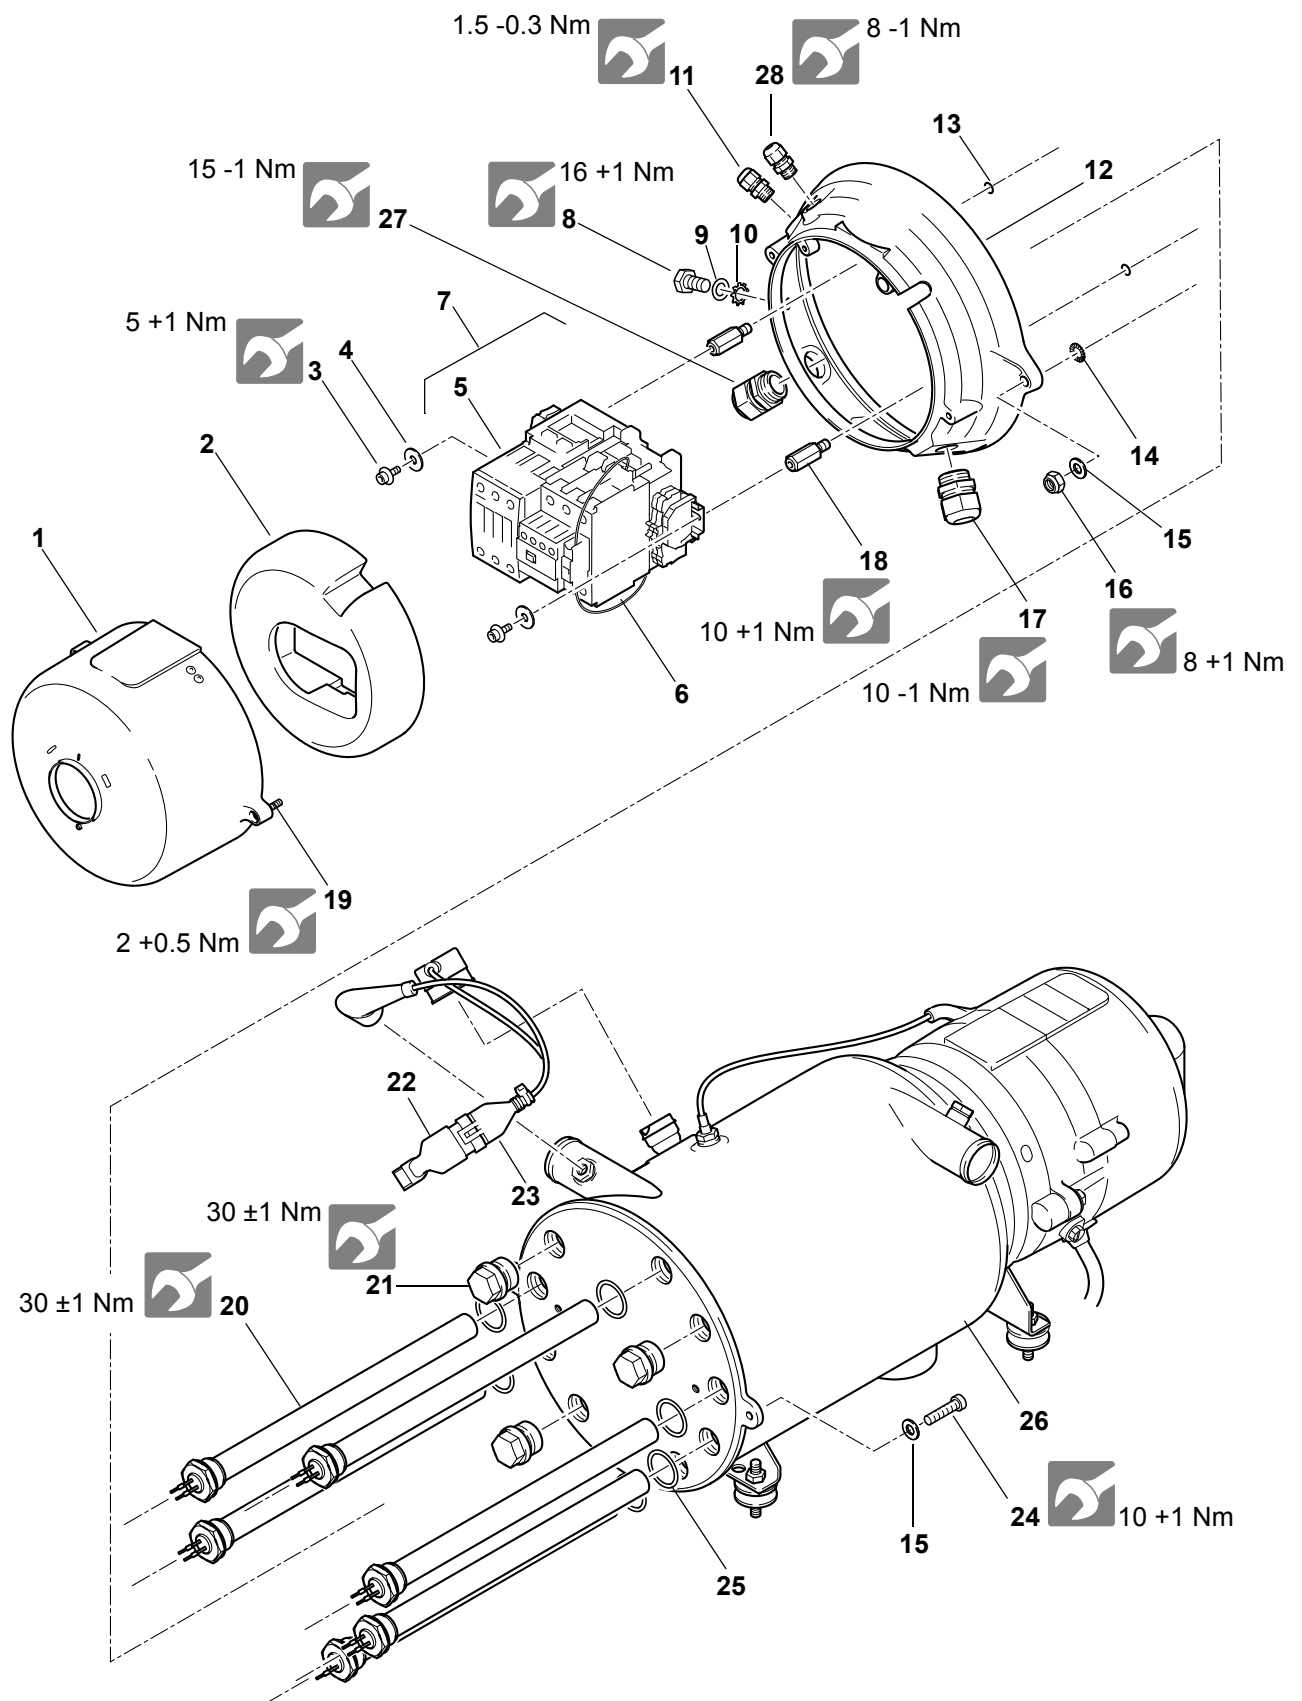

Fig. 805 HV Control head - Removal and Installation of components
2. Loosen screws (19, Fig. 805).
1. Place stabilizer (2, Fig. 805) onto the small distribution board (7).
2. Place hood (1) in assembly position, turn in the screws (19) and tighten them.
3. Disconnect cables connected to the small distribution board (7, Fig. 805) by loosening the appropriate connections.
1. Position housing (12) over the small distribution board onto the heater and then secure it using screws (24, Fig. 805), washers (15), serrated washers (14) and nuts (16).
2. Screw grounding screw (8) with washer (9), serrated washer (10) and vehicle grounding cable lug into the housing (12) and tighten as required.
3. Install connection piece (22) of temperature guards onto the housing (12) if necessary.
4. Plug the temperature guards plug (23) into the connection piece (22) of temperature guards (note the snap-in noise).
5. Hook-up the supply cables to the corresponding terminals of the small distribution board (7) and tighten screws as required.
5. Remove screws (3, Fig. 805) and washers (4).
6. Remove small distribution board (7) from heater.
1. Position small distribution board (7, Fig. 805) to the stud bolts (18) and secure using washers (4) and screws (3).
- Using a wrench loosen the heating cartridges (20, Fig. 805) or the screw plugs (21), screw them out and remove them from heat exchanger. Discard gasket rings (25).
- Preassemble heating cartridge (20, Fig. 805) or screw plug (21) with a new gasket ring (25).
- Loosen cable gland (17, Fig. 805) and screw it with the appropriate cable harness from out the housing (12).
- Route the single wires of the HV DC wiring harness through the appropriate hole (see Fig. 807) into the housing (12, Fig. 805) and screw the cable gland (17) into the housing and tighten it.
6. Loosen cable gland (27, Fig. 805) and screw it with the appropriate cable harness from out the housing (12).
1. Route the single wires of the HV AC wiring harness through the appropriate hole (see Fig. 807) into the housing (12, Fig. 805) and screw the cable gland (27) into the housing and tighten it.
8. Loosen cable gland (11, Fig. 805) and screw it with the appropriate cable harness from out the housing (12).
1. Route the single wires of the LV DC control wiring harness through the appropriate hole (see Fig. 807) into the housing (12, Fig. 805) and screw the cable gland (11) into the housing and tighten it.
6. Loosen cable gland (28, Fig. 805) and screw it with the appropriate cable harness from out the housing (12).